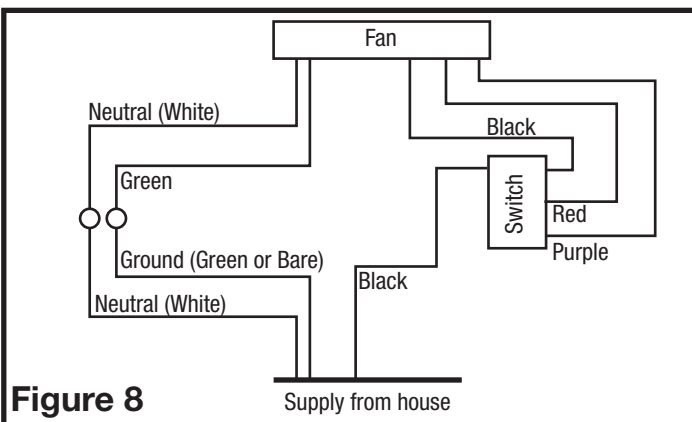

Figure 8
2. Secure the electrical wires to the housing with an approved electrical connector. Connect the White wire of the fan to the White (Neutral) wire from the power source. Connect the ground wire from the house to the green wire from the fan housing. Using a properly grounded three function switch (not included) connect the Black wire from the supply to the switch. Connect the Black wire (fan) from the fan housing to one of the terminals on the switch. Connect the Red wire (light) from the fan housing to a separate terminal on the switch. Connect the Purple wire (night light) from the fan housing to a separate terminal on the switch (**Figure 8**). Use approved methods for all connections.